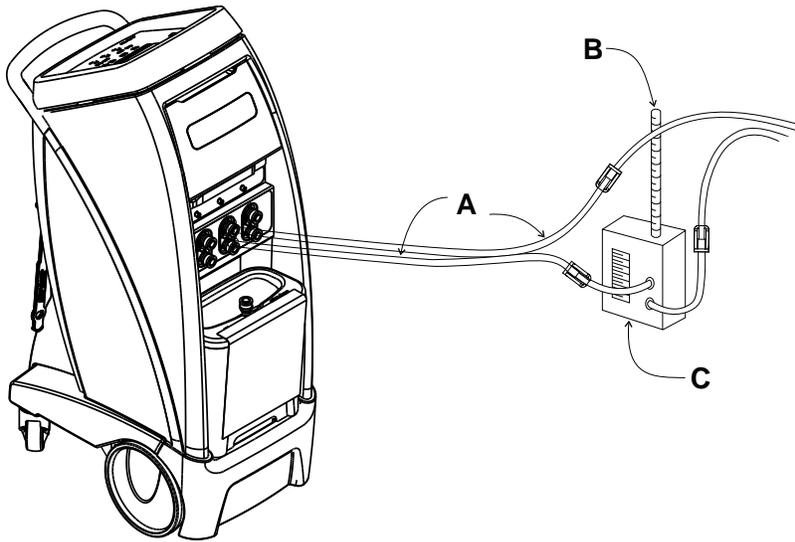
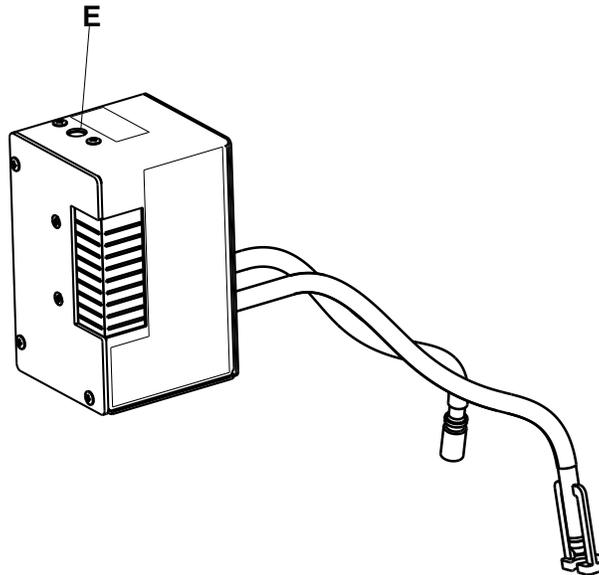

Figure 54 – Connect to controller
Figure 56 – Insert temperature probe
1. Connect two 12" loop back hoses (A) to ports 2 and 3 (Figure 54).
2. Connect the Clik-Tite hose or the Colder style connector hose to the adaptor hose on port 1 and to the TPT10 flow meter (C) (Figure 54).
4. Turn on the reference temperature thermometer and insert the temperature probe (B) into the hole (E) (Figure 56). See temperature probe (B) installed (Figure 54).